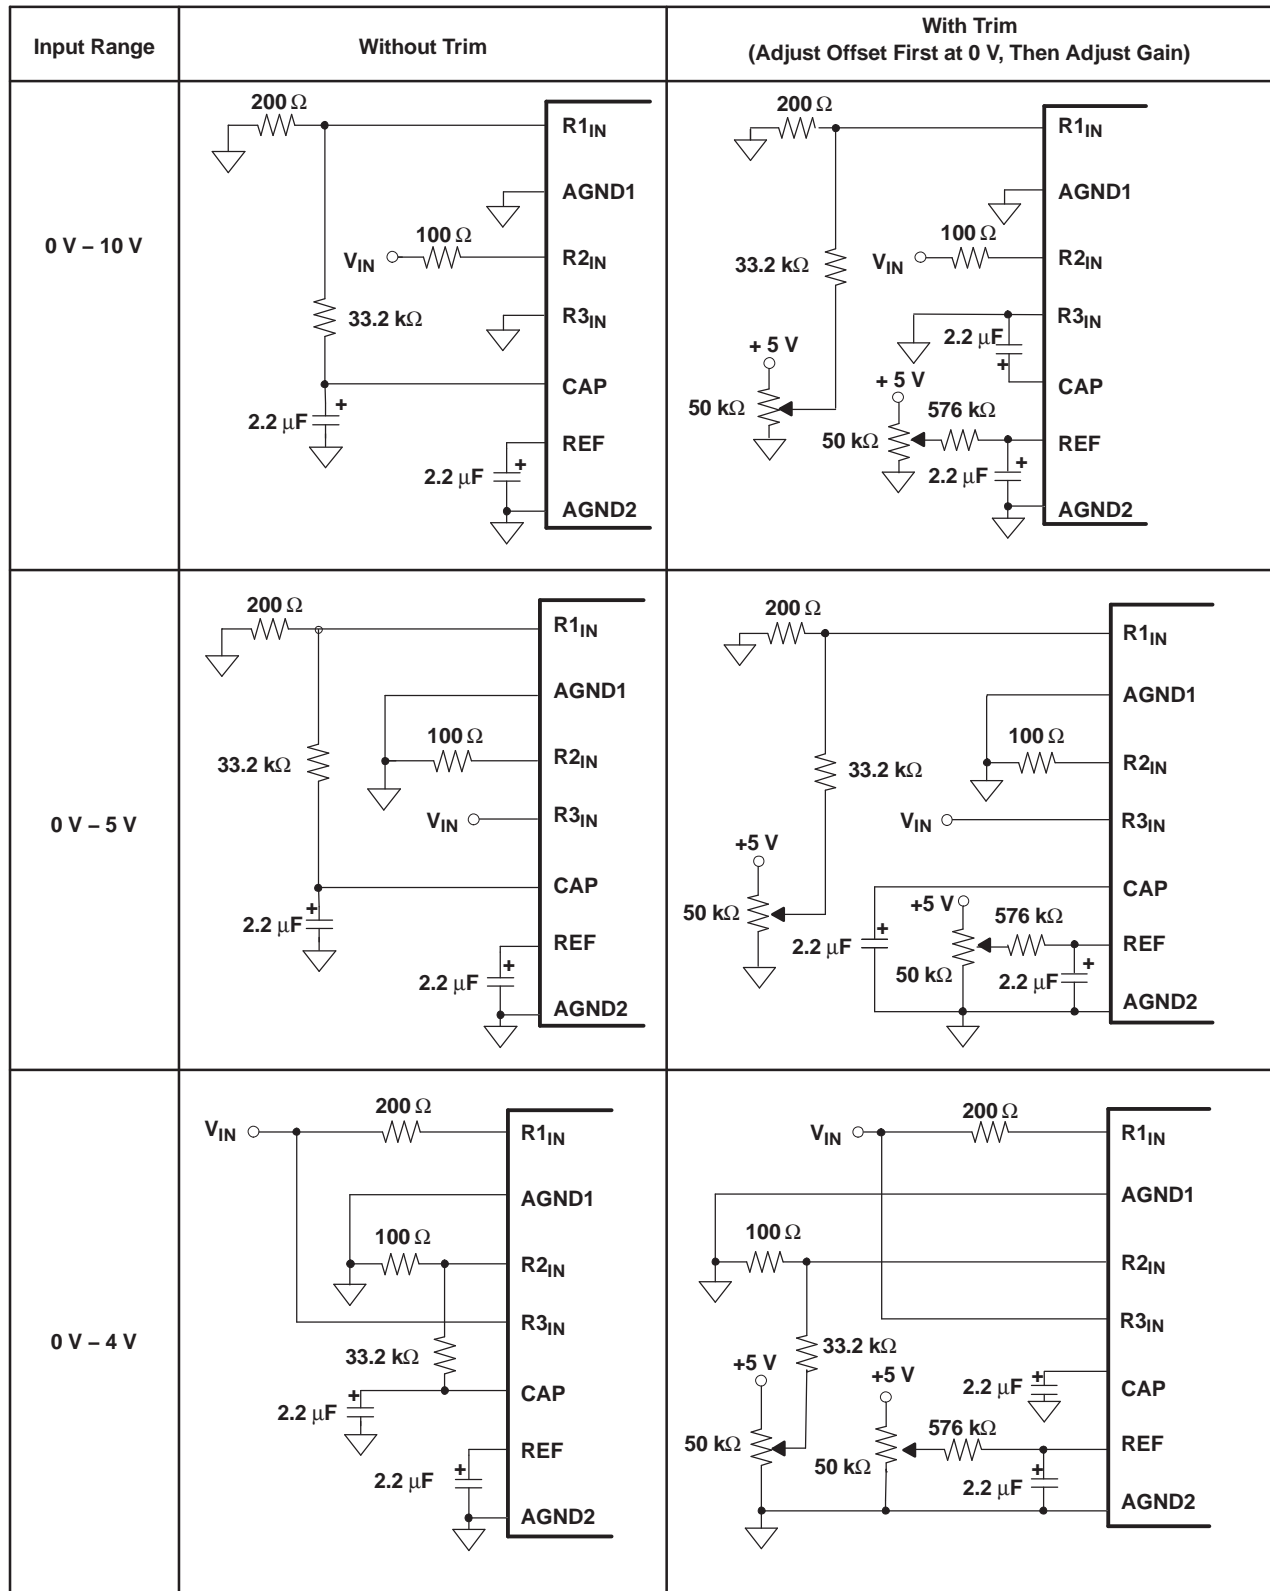

Figure 29. Offset/Gain Circuits for Unipolar Input Ranges
The ADS8509 has six analog input ranges as shown in Table 2. The offset and gain specifications are factory calibrated with 0.1%, 0.25-W, external resistors as shown in Figure 29 and Figure 30. The external resistors can be omitted if larger gain and offset errors are acceptable or if using software calibration. The hardware trim circuitry shown in Figure 29 and Figure 30 can reduce the errors to zero.
**Table 2. Input Range Connections (See Figure 29 and Figure 30 for Complete Information)**